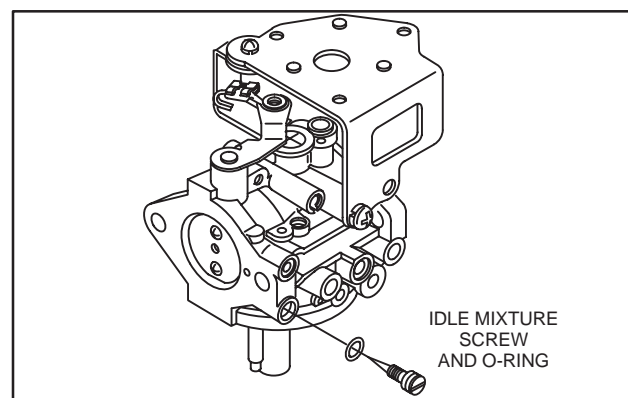

Fig. 36 – Removing Idle Mixture Screw
11. Remove idle mixture screw and "O"-ring, Fig. 36. Discard "O"-ring.